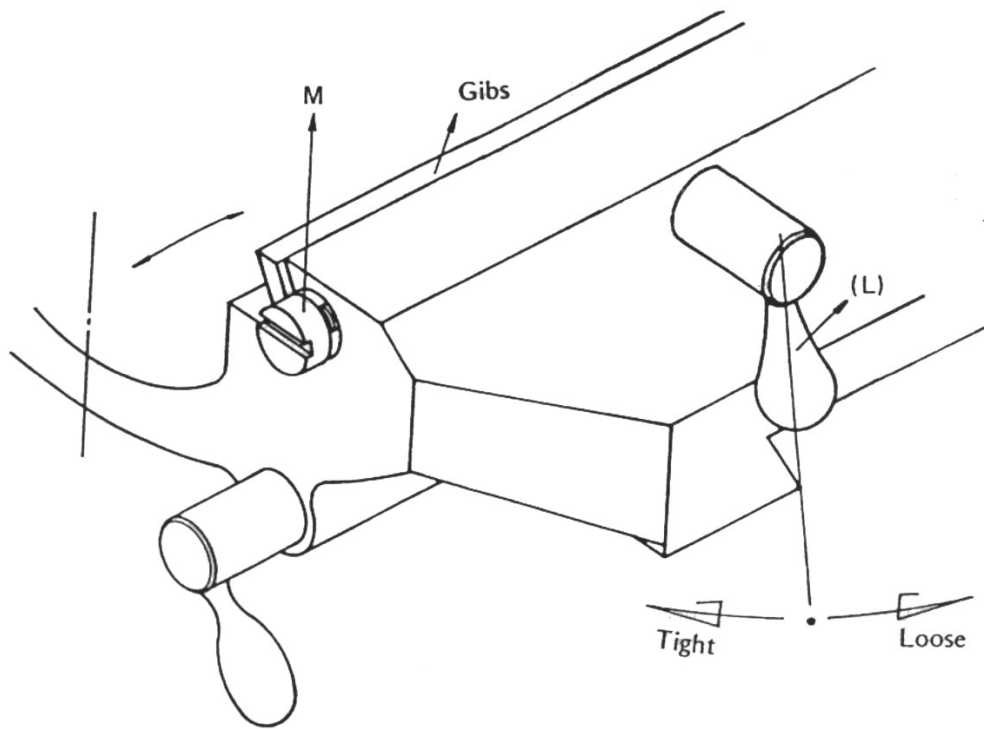

FIG10-3
10.2.1 Adjustment of work table gibs (vide figure 10-3):
- d. Adjusting skill: if the turning of crank (F) (vide figure 10-3) is sensed too loose, loosen slightly the adjusting gib screw on the left side. Turn the crank again to see if it is in good tightness. otherwise, loosen the left adjusting gib screw and lock the